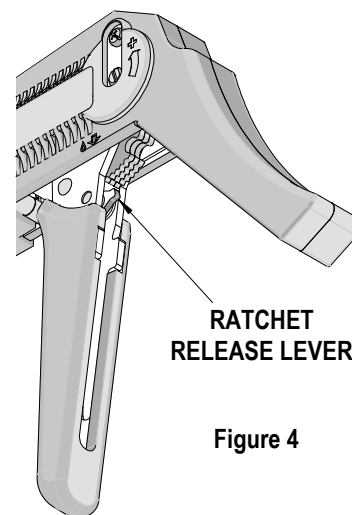

Figure 4
Should this tool ever become stuck or jammed in a partially closed position, **DO NOT force the handles open or closed**. The tool will open easily by pressing the ratchet release lever up. See Figure 4.
1. Remove the 2mm locking screw from the numbered adjusting wheel using a screw driver. See Figure 4.